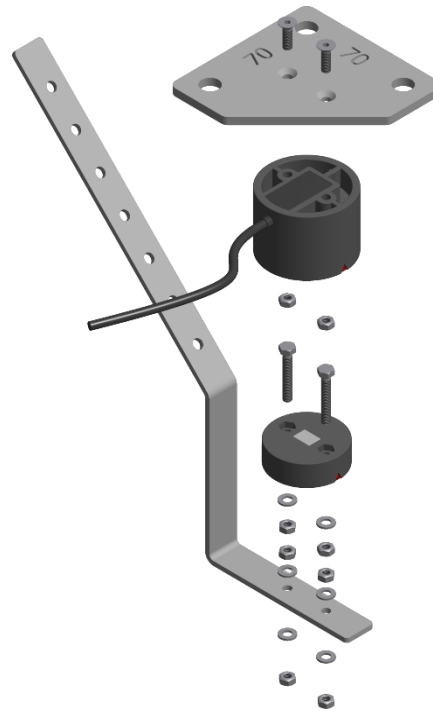
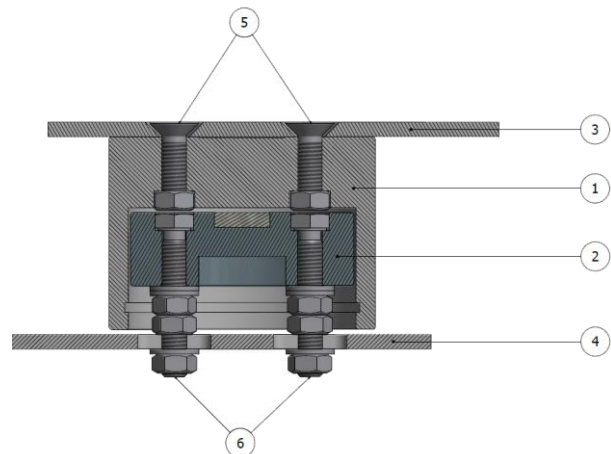

FIGURE 15 SCHEMATIC OVERVIEW OF WHEEL ANGLE SENSOR WITH MOUNTING BRACKET AND STRIP
FIGURE 16 SCHEMATIC DRAWING OF WHEEL ANGLE SENSOR WHEN MOUNTED
Figure 15 and Figure 16 show a detailed view of the structure of a wheel angle sensor assembly. Table 1 also lists the components shown in Figure 15.
3. Mount the sensor housing with the M5X16 bolts (allen bolt, countersunk head). Countersink the drill holes in the wheel angle sensor mounting bracket beforehand, so the heads of the M5 bolts are fully countersunk in the mounting bracket when tightened (Figure 16). To prevent damage to the inside of the the sensor housing, make sure the M5 bolts are not too long.